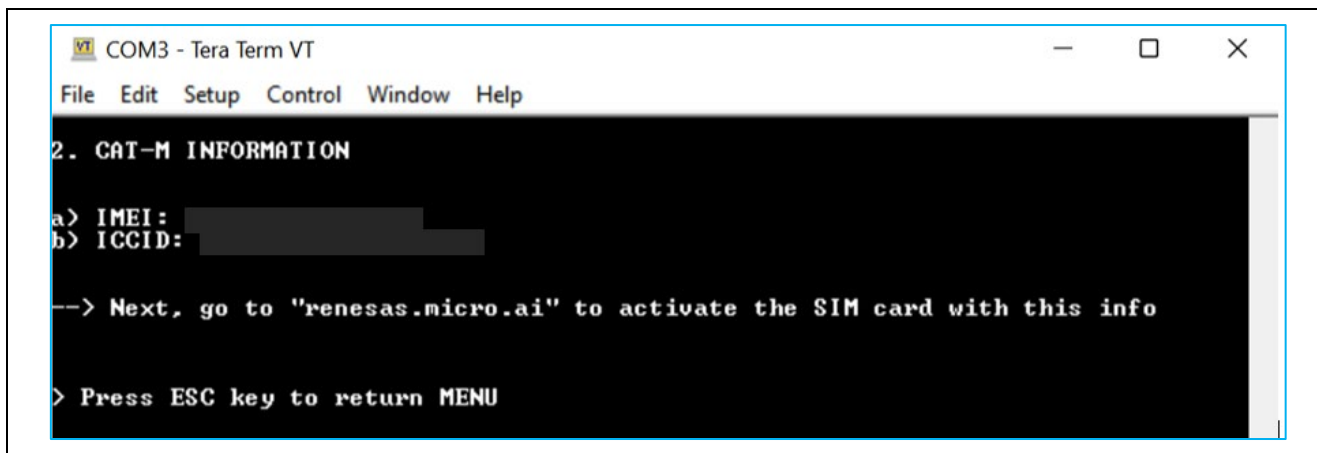

Figure 10. RYZ014A\_PMOD Information
8. Select the device profile created from the **Device Profile** drop-down. Enter a **Device Name**. For the **Device ID**, enter the **IMEI** value obtained as seen in Figure 10. RYZ014A\_PMOD Information . Fill other fields as needed.
10. Enter the **ICCID (or EID)** value for the **SIM EID** field, select the **Region/Country** and click Save SIM. Note: the **ICCID** value is found in Figure 10. RYZ014A\_PMOD Information. Alternately, the EID is supplied with the SIM card documentation.